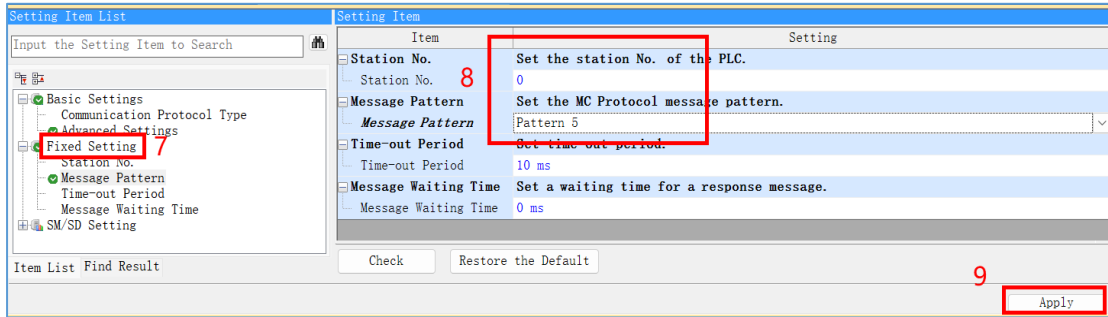

Figure 5
(2) After the basic settings are completed, click on "Fixed Setting", see Figure 5 for details;
(3) Click "Apply" after the configuration is complete, then click "Online" and select "Write to PLC..." to write to the PLC;